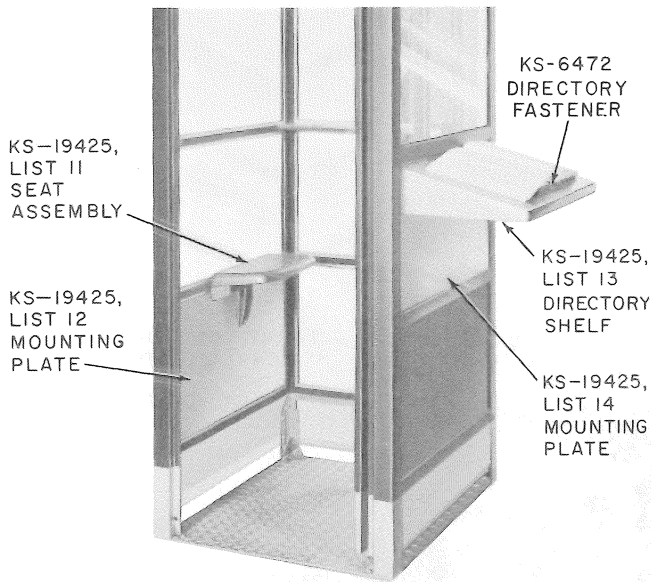

Fig. 5—KS-19425, List 11 Seat Assembly, KS-19425, List 13 Directory Shelf, and Associated Mounting
2.12 Shelf assemblies, directory racks, and associated apparatus are listed in Table D and shown in Fig. 5 through 7.
2.13 A KS-19425, List 11 seat assembly (Fig. 5) may be used if desired.
- 2.14** A KS-19425, List 12 mounting plate (Fig. 5) must be used for mounting the seat.